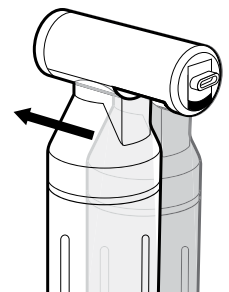

Figure 7. Can slides toward valve to inflate
9. Push the can toward the inner tube valve (Figure 7). As the can slides along the head, this will release CO₂ into the tire.